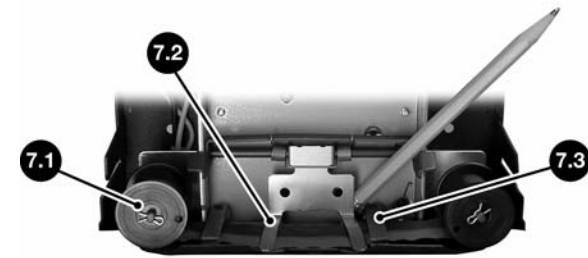

Figure 7
2. Remove the **cotter pins - Figure 7, 7.1** that retain the ribbon spools and slide off old spools.
3. Lift **ribbon hold-down guide - Figure 7, 7.2** - use a pencil to support it in an up position.
4. Remove ribbon and replace with new Lathem ribbon. Make sure the ribbon feeds from bottom of the spools and runs **BETWEEN reversing fingers - Figure 7, 7.3**, the red side should be aligned with the date or day wheel(s).